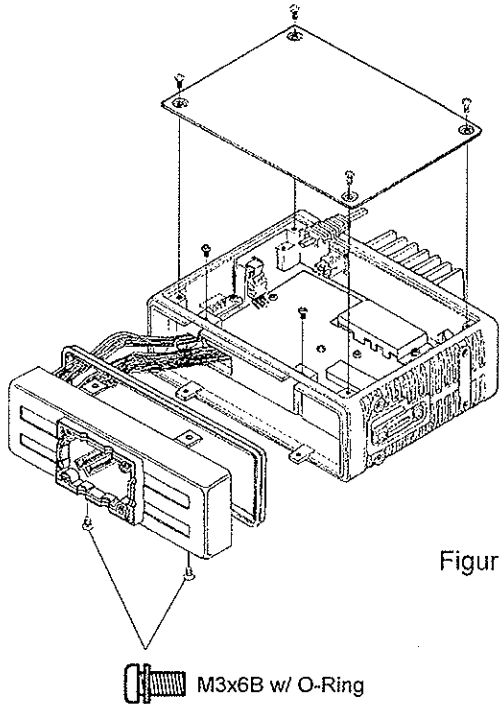

Figure 3
2. Referring to Figure 3, insert the two cables from the exposed transceiver into their mating connectors on the Transceiver Adapter Assembly.